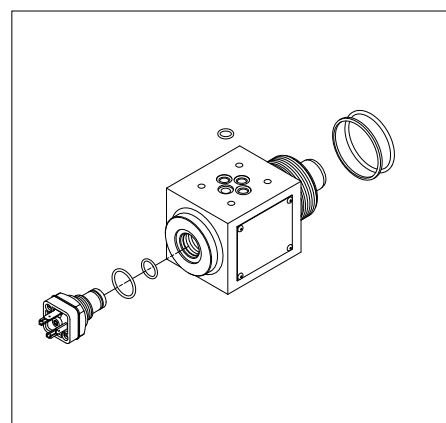

fig. 12
- (Fig. 12) Fit #1: the anti-extrusion ring and #2: the O-ring in the head groove. Replace the O-rings of the manifold and the indicator body